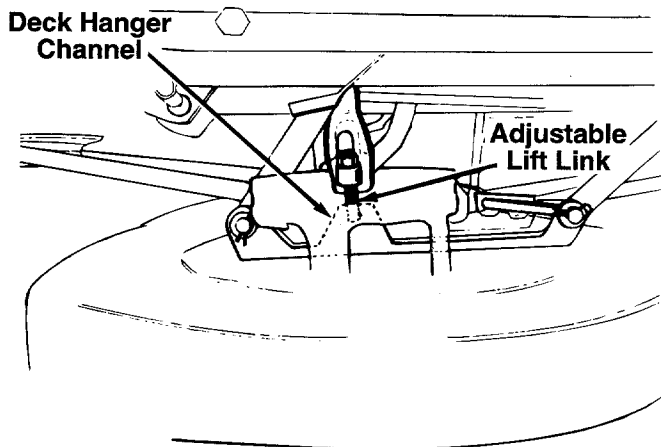

FIGURE 5.
2. Pull the adjustable lift link out of the deck hanger channel. See figure 5. Turn the adjustable lift link up or down as necessary to level the deck. Usually only one or two turns are needed.